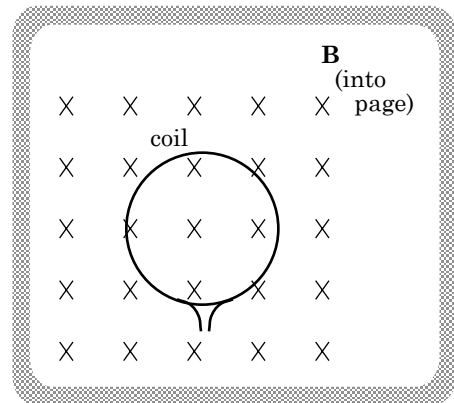

FIGURE 17.7
b.) Put the coil in a constant magnetic field (Figure 17.7). There will be a *magnetic flux* through the coil, but there will still be no current in the coil--there will still be *no power* being supplied to the wire loop.